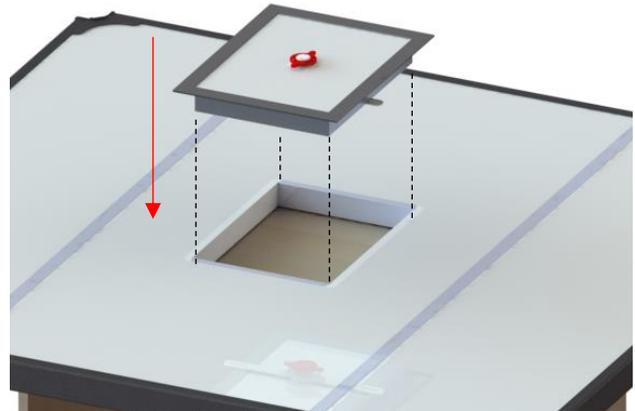

Figure 58
13) On both corner of the assembly, tighten the Robertson sheet metal #8 x 3/4 in. screws on the inside holes of the side C-channels. (Figure 58)